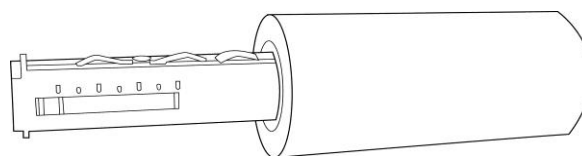

Figure 4
4. Attach the edge of the ribbon to the bare core and wind a little bit onto the core. (Figure 4 & 5)